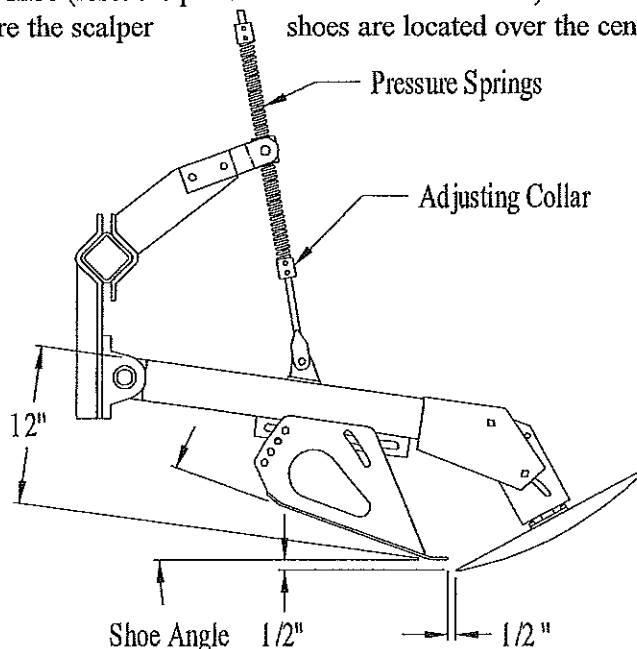

Figure 6.
3. Hydraulic Driven Disk Scalper (Figure 6):
- Adjust the shoe angle so the bottom lip of the shoe is level when touching the ground and the bottom of the shoe is approximately 12" from the top of the scalper arm (see Figure 6). Tighten the shoe mounting bolts to a "snug" position only.
- Adjust the disk to have a slight angle toward the shoe as illustrated in Figure 6. Remove the top bolt holding the disk assembly and only loosen the bottom bolt. Move the disk to the desired angle, and then reinstall the bolts (tighten securely). **Note: The relationship between the tip of the disk and the shoe will remain the same when the angle of the disk is changed.**